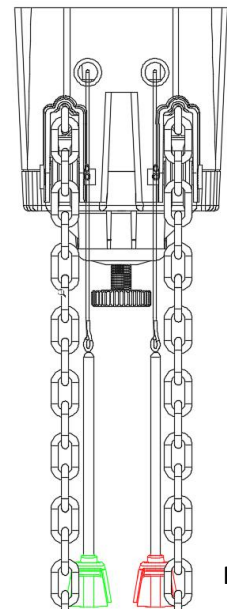

Fig.4
Step 4: Install the equipped pull rope on the wire pull ring of the clutch device and ensure that it is firm; fix the pull rope of the corresponding color according to the label. (Fig.4)